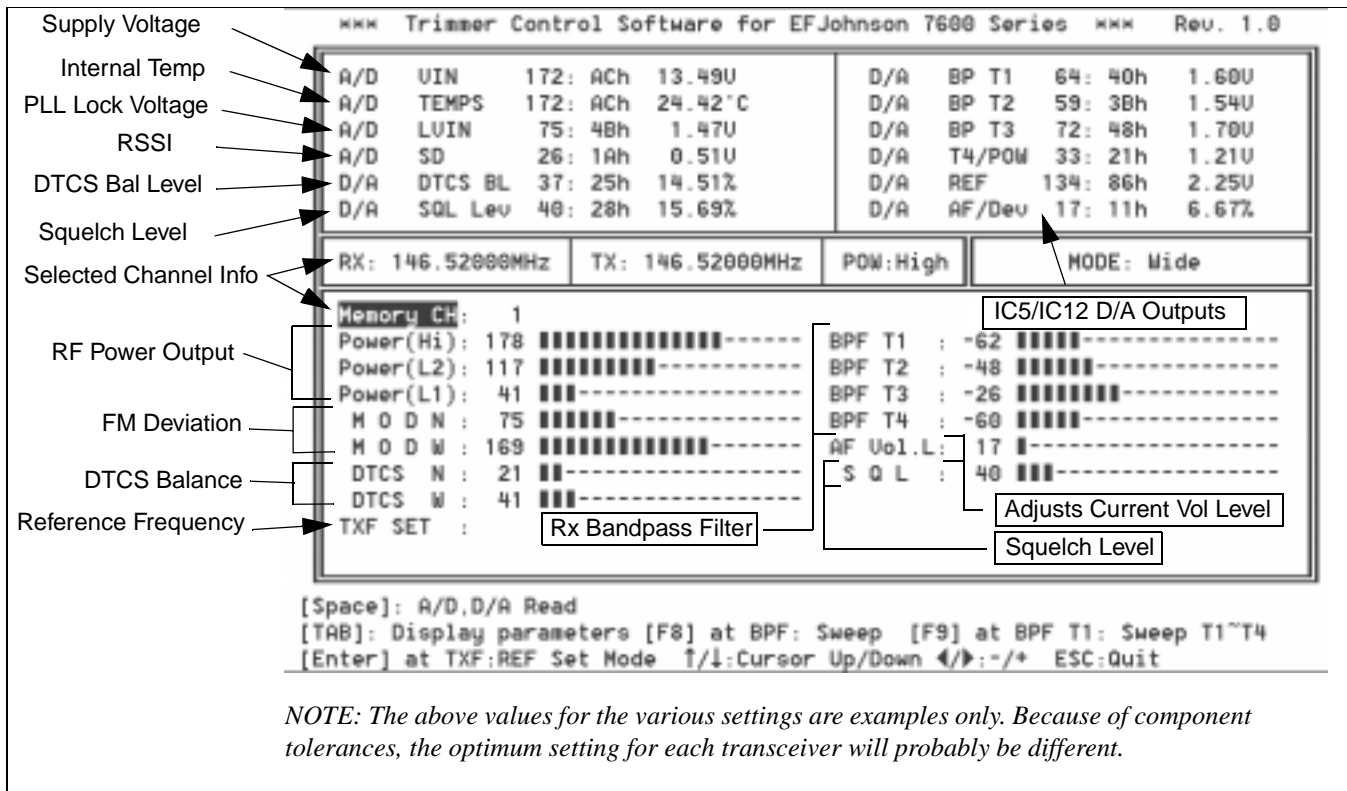

Figure 6-2 Screen Display Example
4. The tune data in the connected transceiver is then downloaded and the adjustment screen shown in Figure 6-2 is displayed. The information displayed